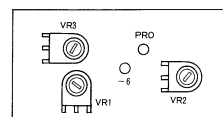

Fig. 15 Control unit (X53-1040-00)
- (3) Next, set the power voltage to 15 V. Fine adjust TC3 in the RF unit and TC1 and TC2 in the final unit for maximum current.
- (4) Readjust TC3 and TC4 in the final unit to obtain maximum power. This adjustment should be repeated two or three times.
- (5) Set the band switch on TS-520 to "28" and the VFO dial to "500". The IF TUNE knob on TS-502 should be in its center position.
- (6) Adjust the DRIVE knob on TS-520 until the ALC meter causes maximum deflection and then adjust T1 in the RF unit for maximum current.
- (7) Under the above condition, set the AC-DC selector switch on the rear panel to "AC". Then, adjust VR2 of the control unit until the output power reaches 9 W (ALC adjustment) (Fig. 15).
- (8) Turn VR1 of the control unit so that the RF meter indicates the point "B" (RF meter adjustment). Then, set the AC-DC selector switch back to "DC".